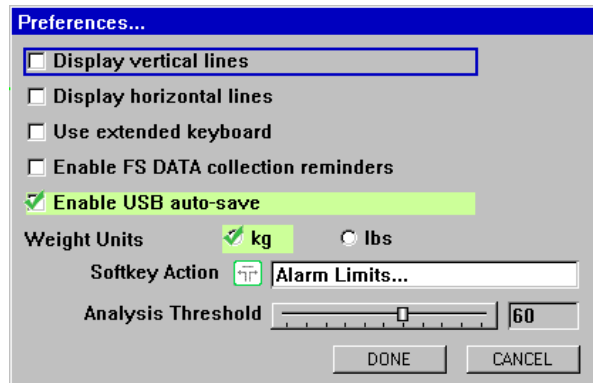

Figure 27: Preference Menu
- 4 Press the rotary knob a second time to open the Preferences menu (see Figure 27 below).